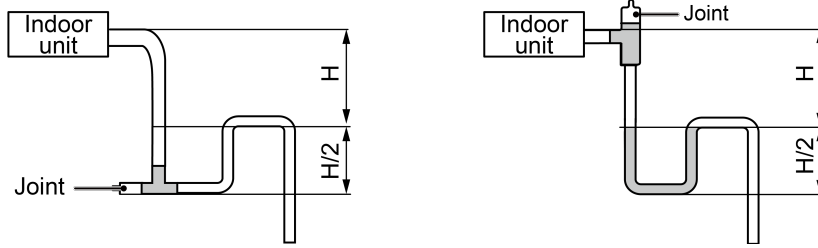

Fig.4.3.5
- (5) Install the trap as shown in following Fig.4.3.5.
- (6) Install one trap for each unit.
- (7) Convenience for cleaning trap in the future should be considered when installing it.